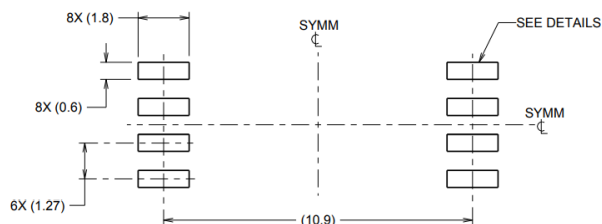

Fig5. SO8W Land Pattern
The Fig5 illustrates the recommended land pattern details for the Pai8302E(Q) in an 8-pin wide-body SOIC package. The table lists the values for the dimensions shown in the illustration.